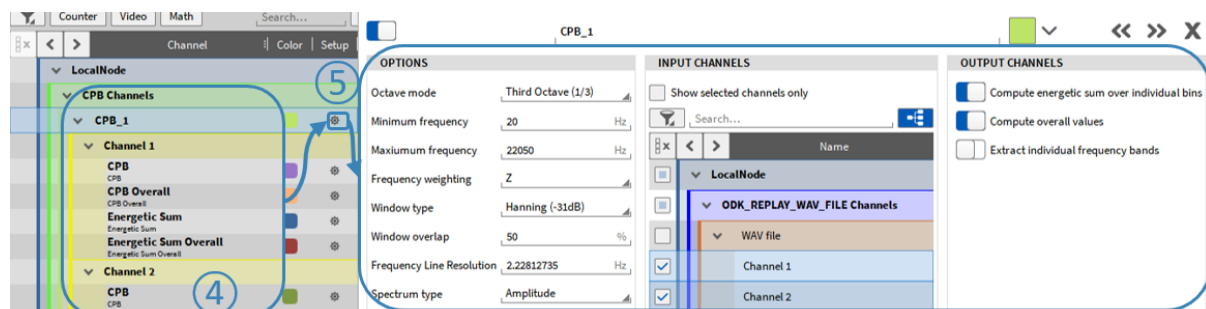

Fig. 7.125: CPB Analysis with extracted 100 Hz and 250 Hz bin
3. Press *Add* afterwards to create the calculation. The channels will be added to the Channel List (see ④ in Fig. 7.125)
4. The settings can be accessed afterwards by clicking on the Gear button of the channel (see ⑤ in Fig. 7.125)
The actual CPB spectrum (changing in time) is calculated per default. The channel name is *CPB* (see ④ in Fig. 7.125).
If *Compute energetic sum over individual bins* is enabled, the energetic sum for the spectrum is calculated. The channel name is *Energetic Sum* (see ④ in Fig. 7.125).
The calculation will be reset at recording start. The channel name will be *CPB Overall* and *Energetic Sum Overall* (see ④ in Fig. 7.125).